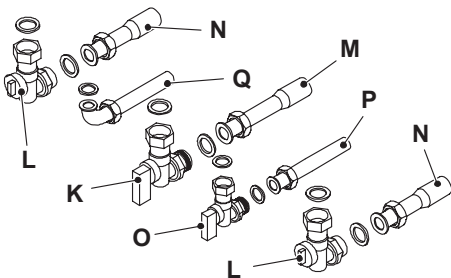

Fig. 6.3
- Fix the c.h. valves L and gas cock K ($\frac{3}{4}$ " to the boiler using the $\frac{3}{4}$ " gaskets (Fig. 6.3)
- Fix the ø 22 mm pipes N (c.h. circuit) to the c.h. valves L and the ø 22 mm pipe M (gas) to the cock K using the $\frac{3}{4}$ " gaskets (Fig. 6.3)